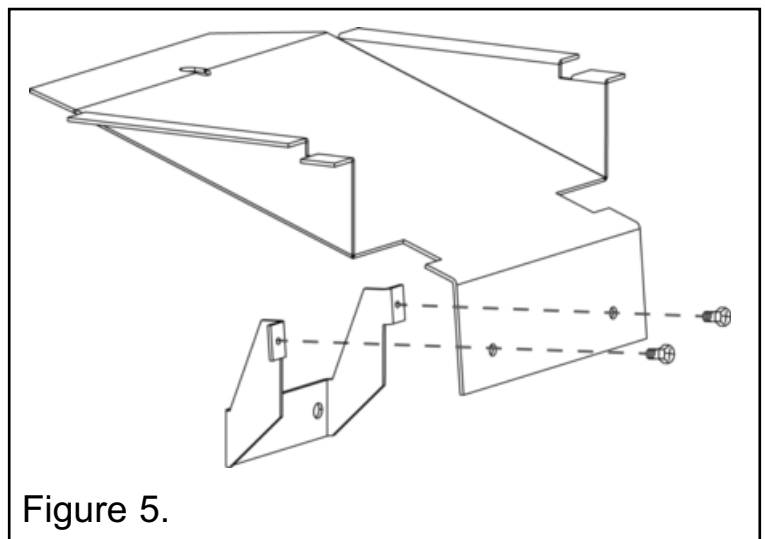

Figure 5.
- These should be fitted to the stove following figures 5, 5A, 5B and 6. Do not bolt in place until fitting the deflector.
Fit the Spacer bracket as shown in figure 5 tightly to the Draught Deflector